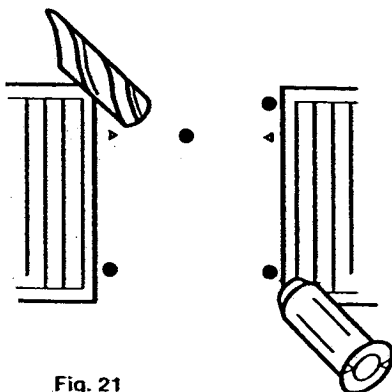

Fig. 21
3. Drill the anchorage holes 63mm (2 1/2 in) deep to accept suitable wall plugs (Fig. 21).